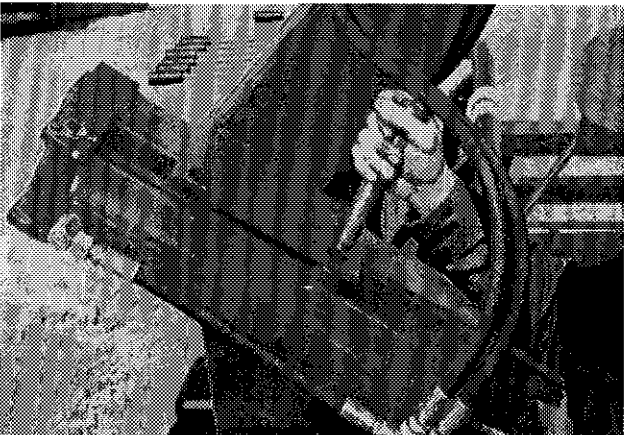
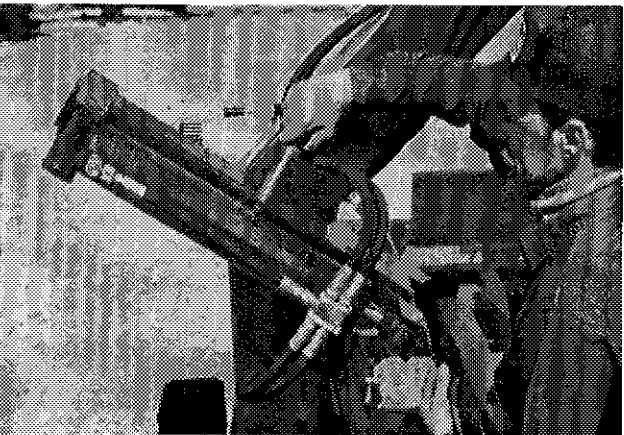

Figure 16
Figure 17
- 1) Position the six (6) stretcher hydraulic cylinder assemblies according to the size of ProTube used. Use the inside holes for 4 ft. tubes, 48" to 56" (1.22 to 1.42 m) (Fig.16). Use the outside holes for 5 ft. tubes, 56" to 66" (1.42 to 1.68 m) (Fig.17).